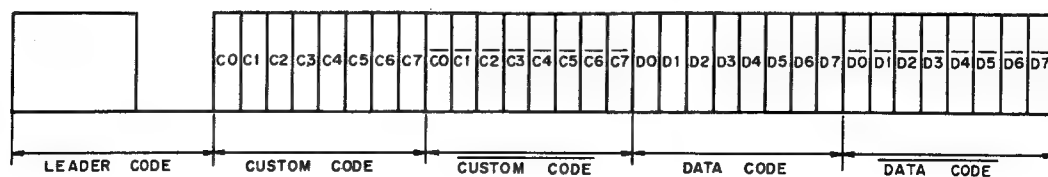

Fig. 4-11 Format and Data Structure of the Remote Control Signal
- The signal format must conform to that of  $\mu$ PD6102G. (See figure 4-11.)